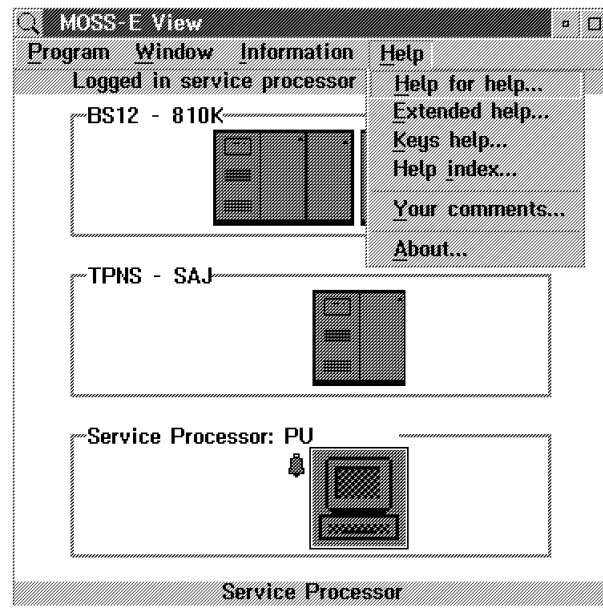
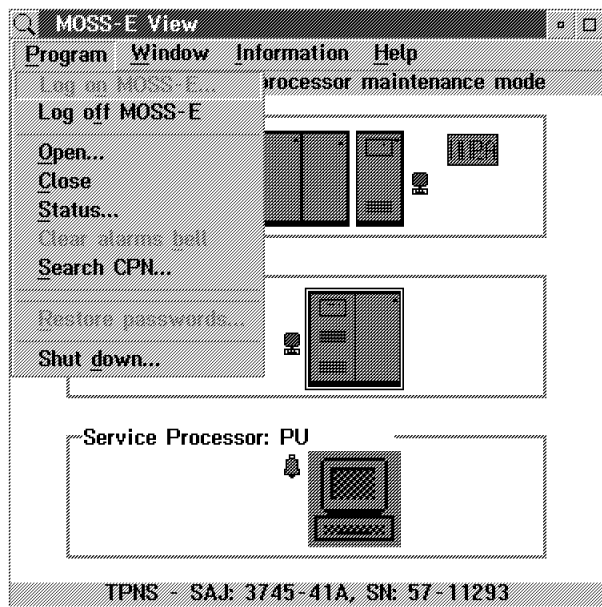
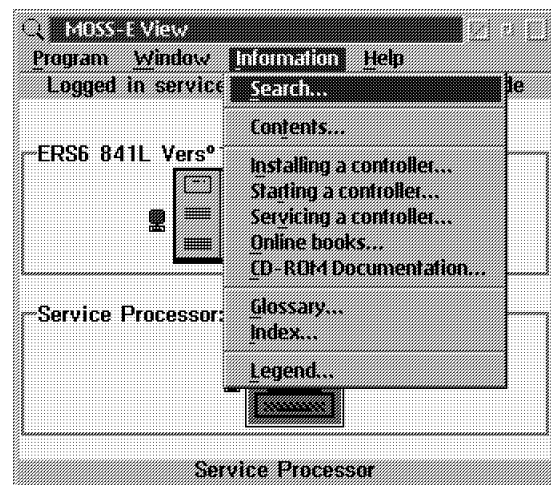

Figure 1-3. Help Pull Down Menu
Figure 1-4. Program Pull Down Menu
Figure 1-5. Information Pull Down Menu
1. The **Help** option of the **title bar** of the screen (example: see Figure 1-3 on page 1-3).
From these screens, clicking on Program , Information, or Help, you will get all the information to manage your controller. The other options will help you find specific information (see Figure 1-4 on page 1-3, Figure 1-5 on page 1-3, and Figure 1-3 on page 1-3).
1. From the Help pull down menu (see Figure 1-3 on page 1-3), select **Help for Help**.
1. From the **Information pull down menu** click on **Legend** (see Figure 1-5 on page 1-3).